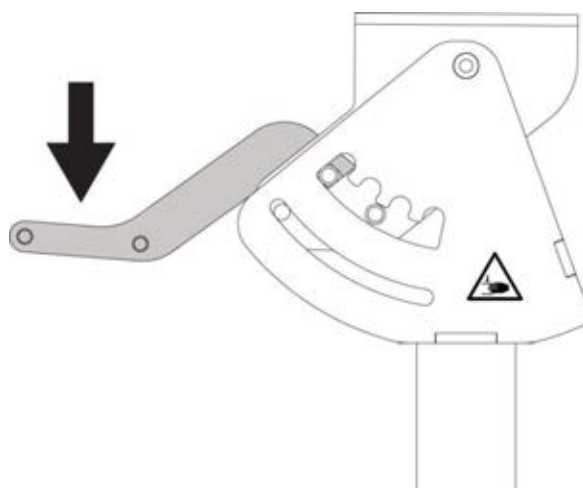

Figure 9 Dispenser Head Angle Adjuster Handle
2. Pull the **Dispenser Head Angle Adjuster Handle** down with one hand (refer to Figure 9).